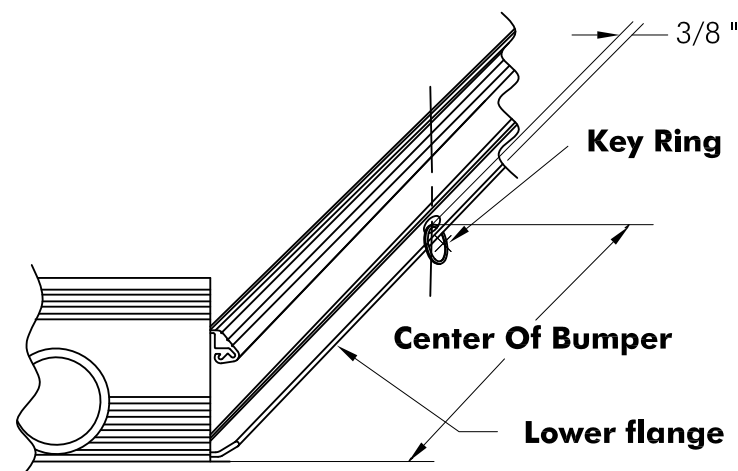

Fig. 2
- ❑ To install the rear key ring, find the center of the rear bumper (side to side) and mark the lower flange. Then measure in 3/8" on the centerline and center punch. Drill a 1/4" hole and install key ring thru hole. Install rear gate and attach the bungee hook into the key ring. See Fig. 2